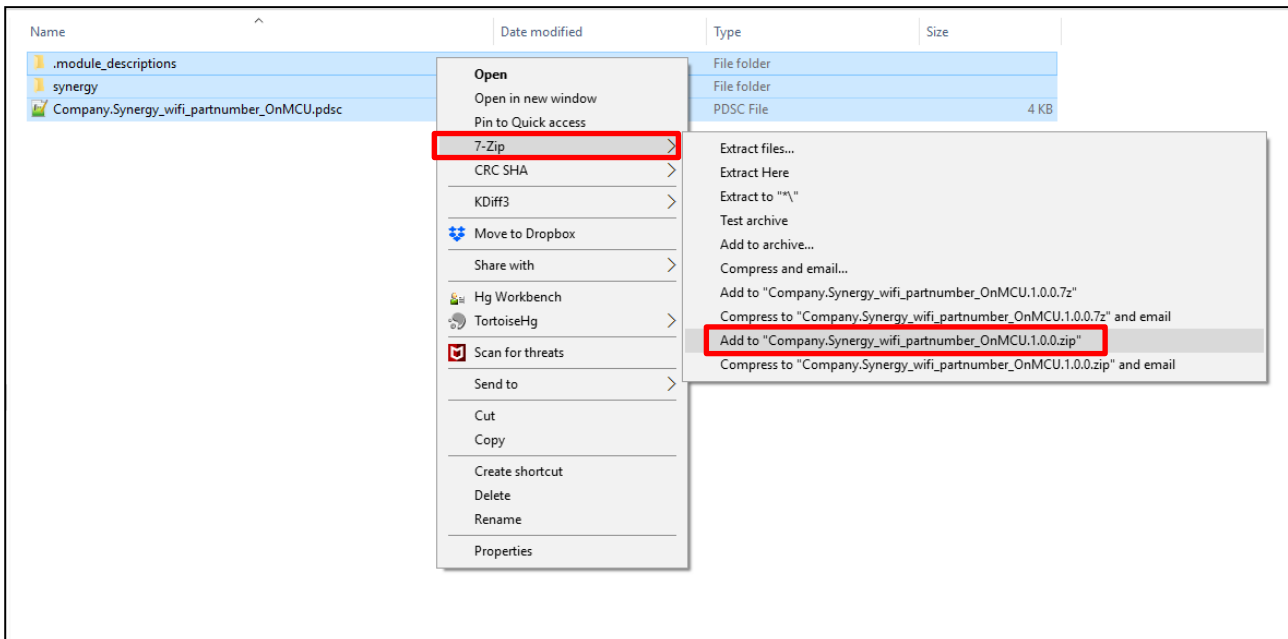

Figure 12 Pack File Creation
- Select all the folders and files to be included in the pack as shown in Figure 12.